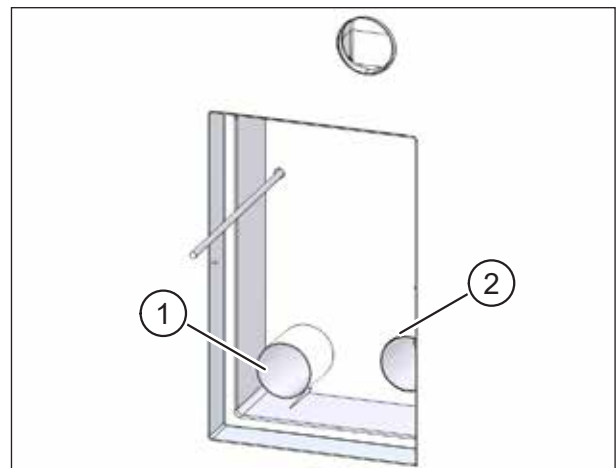

Fig. 41: Cutting ventilation pipes to length
- ▶ Push the two ventilation pipes (item 1 in Fig. 41) into the openings in the installation kit until they end flush with the inside of the installation kit (item 2 in Fig. 41).